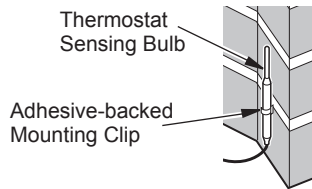
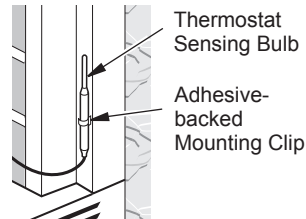
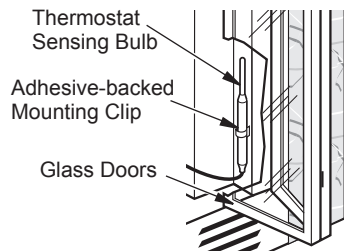

Figure 41- Locating Thermostat Sensing Bulb on Masonry Fireplace
Figure 42 - Locating Thermostat Sensing Bulb on Factory-built Metal Fireplace
Figure 43 - Installing Thermostat Sensing Bulb Behind Glass Doors
3. The thermostat sensing bulb may be located to the lower right front side of fireplace. Determine location of sensing bulb, but do not mount sensing bulb until step 4. If you have a masonry fireplace, see Figure 41 for location. If you have a factory-built metal fireplace, see Figure 42 for location. If your fireplace has glass doors, position sensing bulb directly behind door gap on right bottom side (see Figure 43).